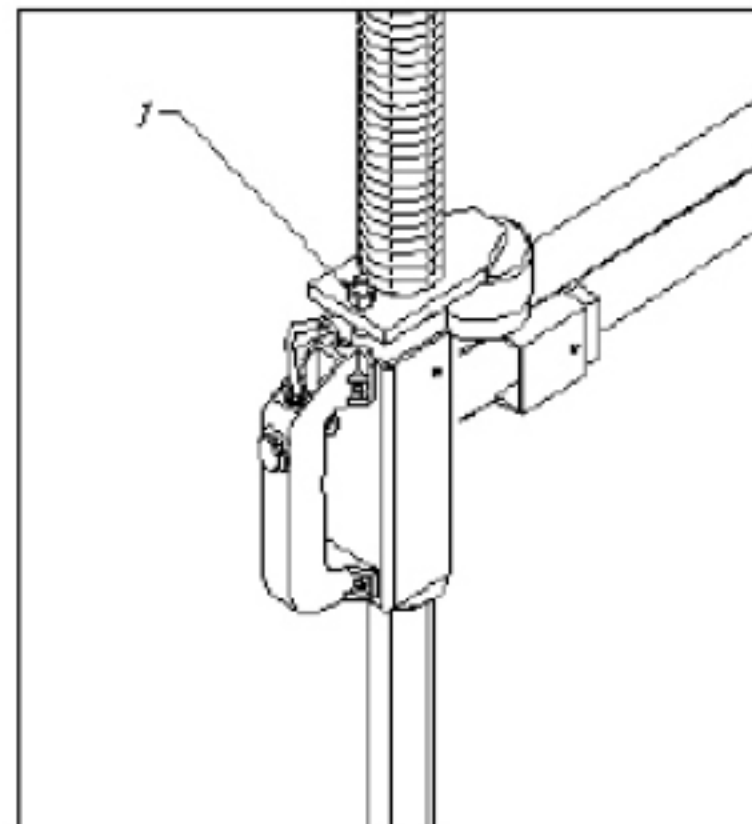

Figure 5-4
It is necessary to adjust the screw (1) in the locking plate of the mounting arm, if the mounting head doesn't lock or it doesn't rise from the rim of 2mm necessary for working. (Figure 5-4)